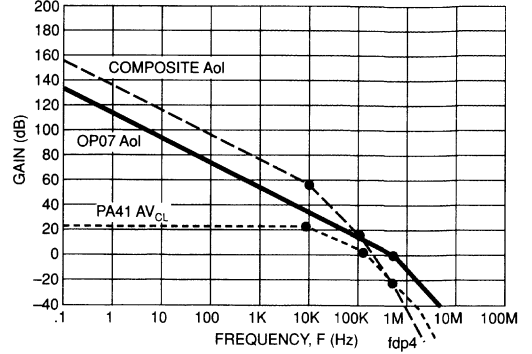

FIGURE 29. COMPOSITE AMPLIFIER AoI MAGNITUDE PLOT
- STEP 2:** Create composite Aol: Refer to Figure 29 (see second page following this one) which shows addition of closed loop gain of PA41 to OP07 Aol on dB plot to yield net Composite Aol.